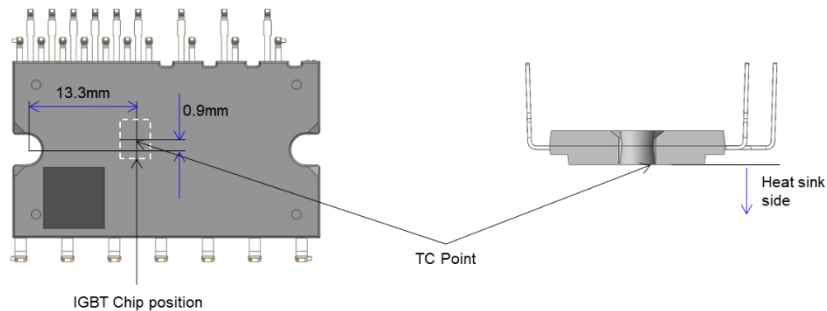

Figure 2. T_c Measurement Point
2. For the measurement point of case temperature (T_c), please refer to Figure 2.